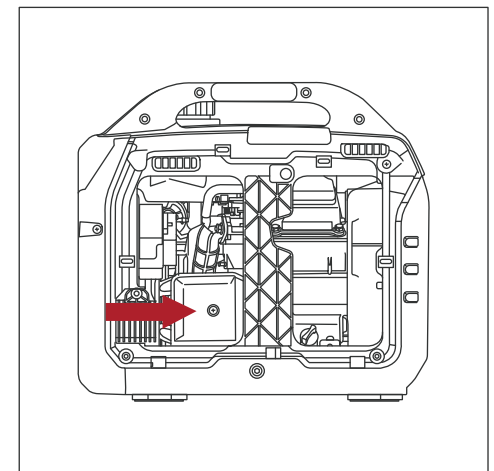

Fig.23
- 4 Remove the foam element from the air cleaner housing (see **Fig.23**).